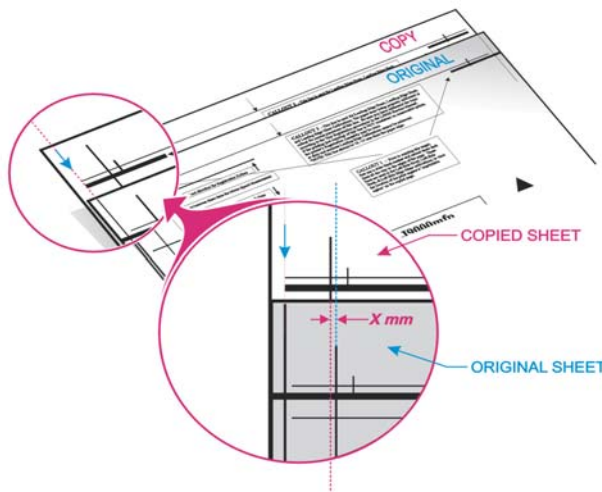

Figure 213. Left side front calibration (3 of 4)
- 9 On the calibration target, compare the line on the left side of the original to the line on the left side of the copy. See figure 213.